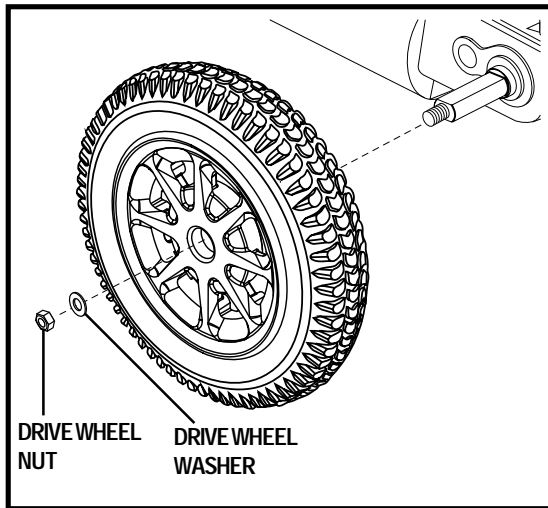

Figure 26. Jazzy 1170XL Plus Drive Wheel
4. Remove the drive wheel nut and washer from the axle. See figure 26.